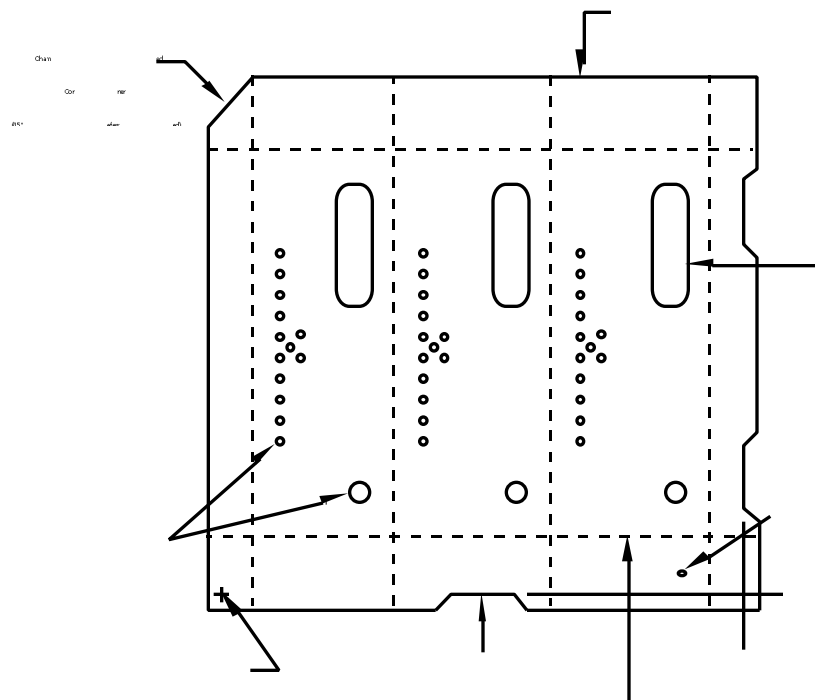

Fig. 1. Typical Lasered Ceramic Substrate
4. Chamfered Corner: A unique reference used to locate the datum point and/or the working surface ("A" side) for thin film substrates (reference Figure 1).
6. Cut Slot: Laser machined feature through thickness of substrate with length greater than width (reference Figure 1).
9. Fiducial: A marking used as a standard reference for substrate orientation and alignment (reference Figure 1).
15. Locating Hole: Customer-specified optical and/or mechanical feature (reference Figure 1).
17. Multi-Up Design: A single substrate containing multiple laser scribed parts to allow for batch processing in the customer's process (reference Figure 1).
18. Pin Flat: Machined indentation, located on substrate edges, used for precise mechanical alignment of the substrate in the customer's process (reference Figure 1).